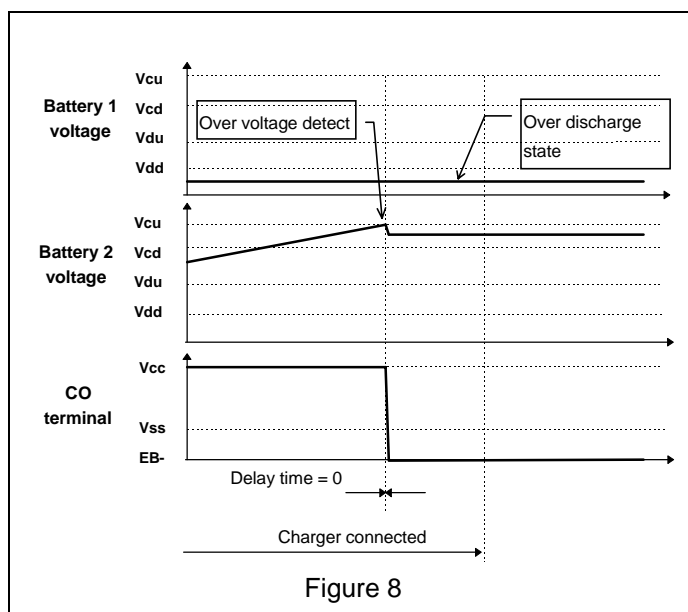

Figure 8
(2) When one of the battery voltages is overdischarge detection voltage(VDD1,2) or lower and the other one becomes higher than the overcharge detection voltage(VCU1,2), the IC detects the overcharge without the overcharge detection delay time(tCU). (Refer fig.8)
This phenomenon occurs when one battery voltage is lower than overdischarge voltage(VDD1,2) and batteries are charged by charger. Under this situation voltage difference between two batteries is unusual. With out delay time is better than long delay time for battery pack safety.(Refer fig.8)